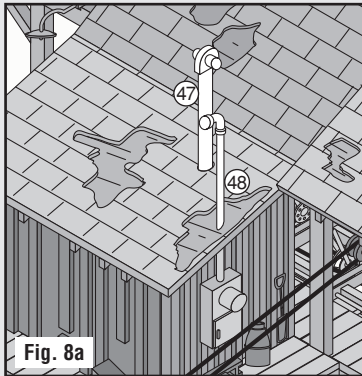

Fig. 8a
- Glue Stove Vent (47) and Electrical Conduit (48) to Small Roof (Fig. 8a).